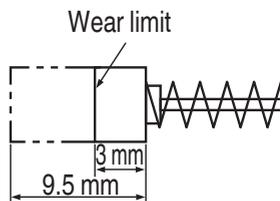

Fig. 9
4. Inspecting the carbon brushes (**Fig. 9**)